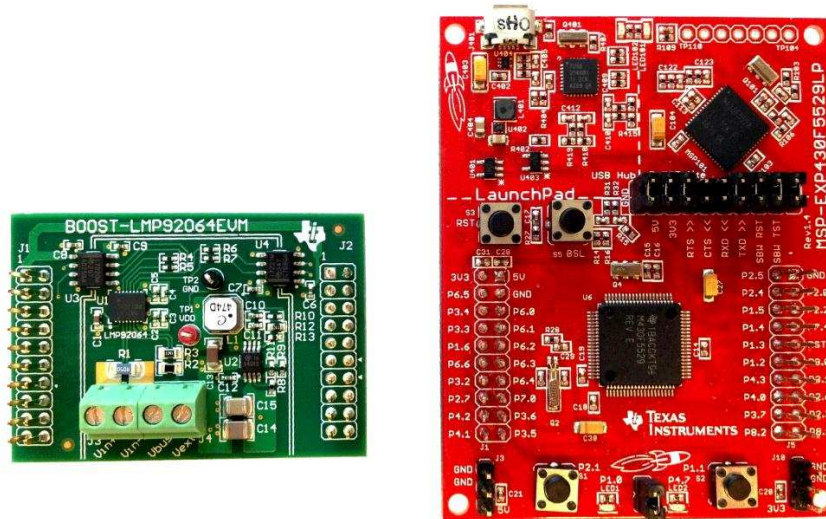
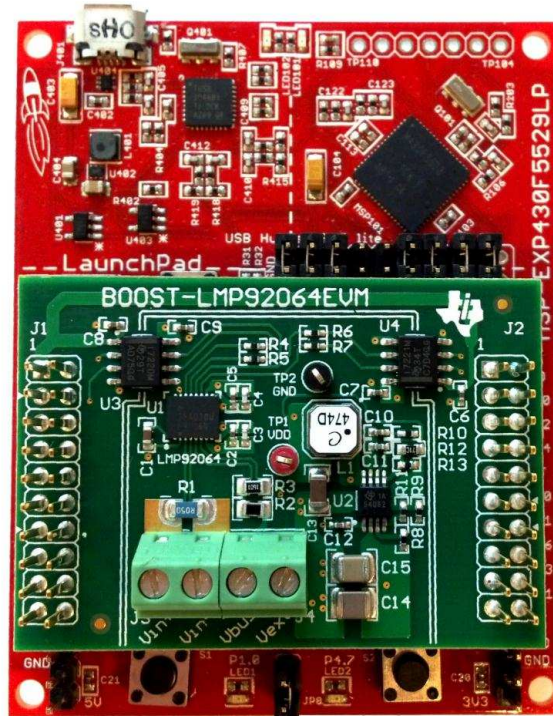

Figure 4. LMP92064EVM BoosterPack and MSP-EXP430F5529LP LaunchPad
Figure 5. BoosterPack attached to the MSP430 LaunchPad
1. Attach the LMP92064 BoosterPack on the MSP430 LaunchPad using connectors J1 and J2. The BoosterPack should sit easily over the LaunchPad (see Figure 4 and Figure 5 for reference).